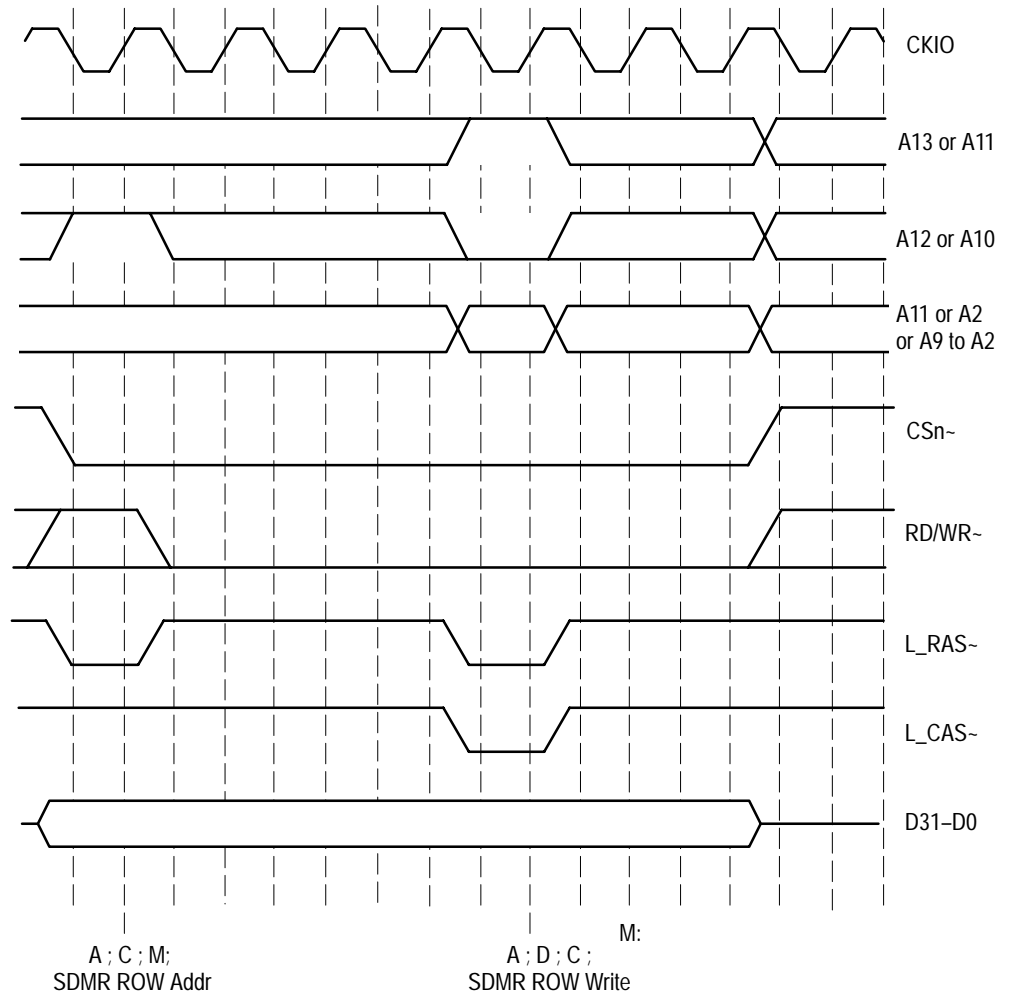

Figure 2-7: SDRAM Mode Register Write Cycles bus timing
**SDRAM Mode Register Accesses.** SDRAM Mode Register Accesses are handled by the SDRAM/NORMAL clocking options. This access is marked mainly by L\_RAS~ and L\_CAS~ signals both going low together which does not happen for normal or burst in Read or Write Cycle types. When L\_RAS~ AND L\_CAS~ are both low at a rising CKIO edge, the Address, Data, and Control signals are logged-in and mastered see Figure 2-7.